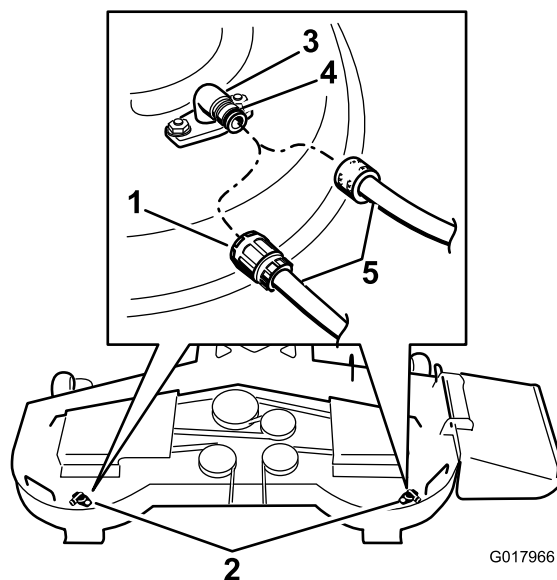

Figure 73
3. Attach the hose coupling to the end of the mower washout fitting, and turn the water on high (Figure 73).